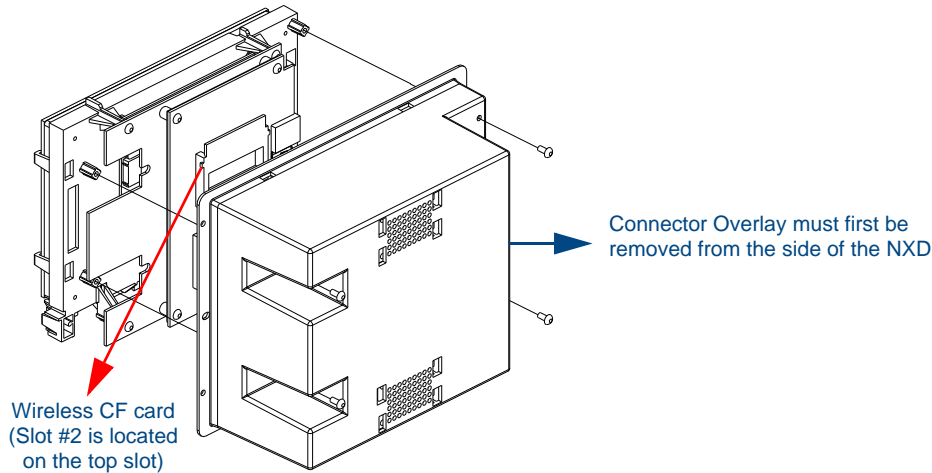

FIG. 4 Location of the wireless CF card connector on main board
7. Gently lay the back box to one side of the unit. This exposes the internal circuit board (FIG. 4). Take care not to place undue strain on the speaker cables.